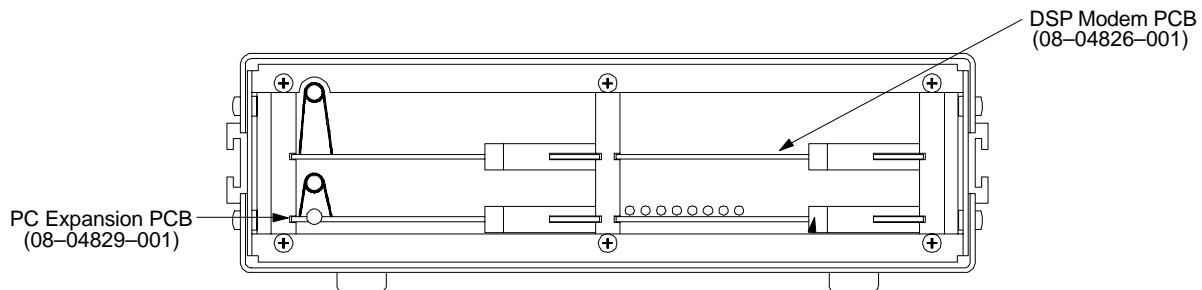

Figure 1: Position of the DSP Modem PCB in the 9001
The ferrite creates a 1 kΩ resistance to ground through the clip holding the two ferrites together. This creates a parallel port interrupt on the PC Expansion PCB (see Figure 1). This activity on the PC Expansion PCB initiates a “BUSY” response in the 9001, which responds as if it is printing. The most common cause of this problem is solder in the via running underneath T1.
- Locate the slot containing the DSP Modem PCB at the top right-hand corner of the interface (see Figure 1).
- Replace the DSP Modem PCB in the slot at the top right-hand corner of the 9001 (see Figure 1).